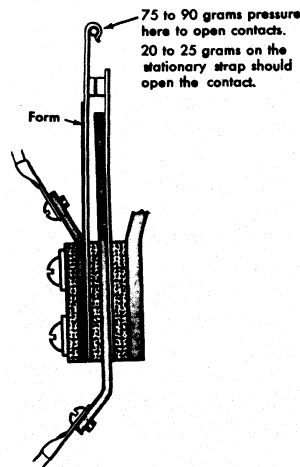

Figure 117. Sensing Contact Adjustment
3. With plastic contact operators removed, form movable contact straps so that pressure of 75 grams to 90 grams is required to break movable contact from stationary contact (Figure 117). Pressure of 20 grams to 25 grams